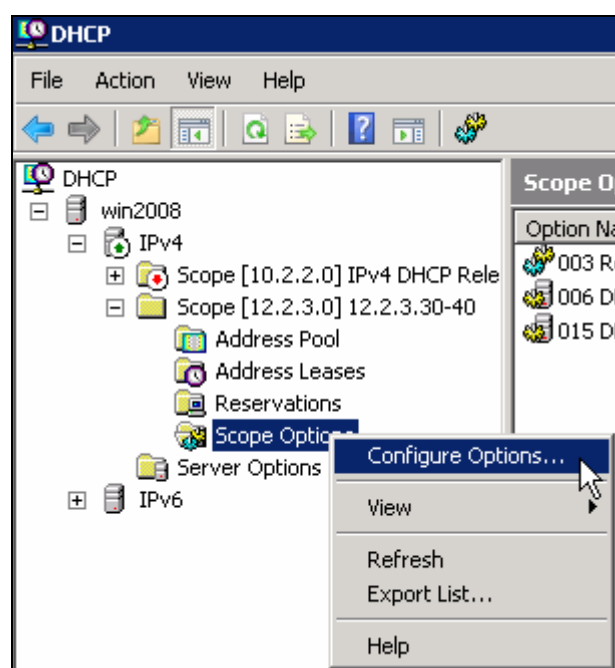

Figure 4-30: Scope Options Configurations
3. Select Configure Options (Figure 4-30).